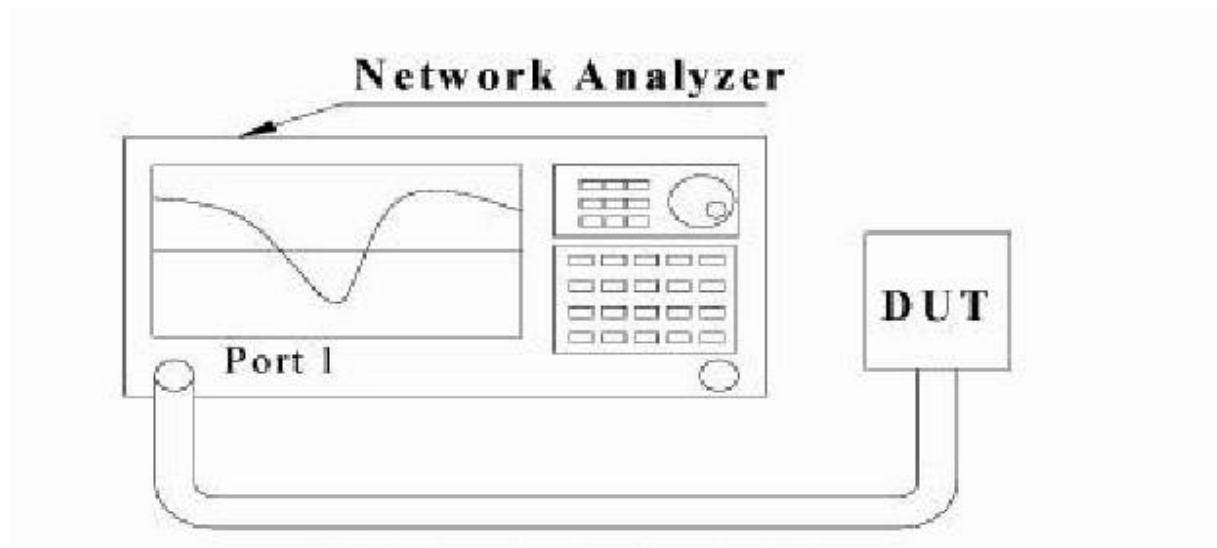

Fig.1 Measure S11 on Network Analyze
- (I) Calibrate the Network Analyzer by one port calibration using Agilent calibration kits.
- (II) Connect the antenna under test to the Network Analyzer
- (III) Measure the S11 (reflection coefficient) shown in Fig.1